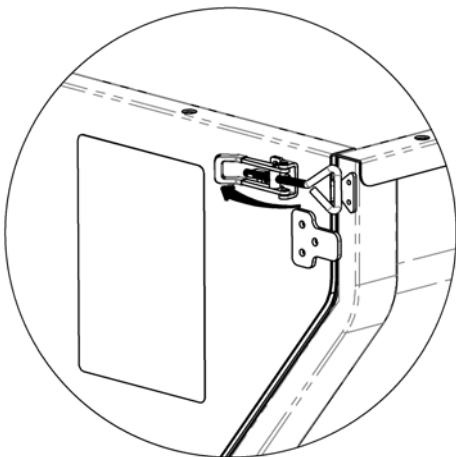

Figure 19
18. Secure the Tailgates by latching the adjusted Latching Arms into the Hooks on the Bed Frame, and then push the Latch backwards to lock (**Figure 19**).